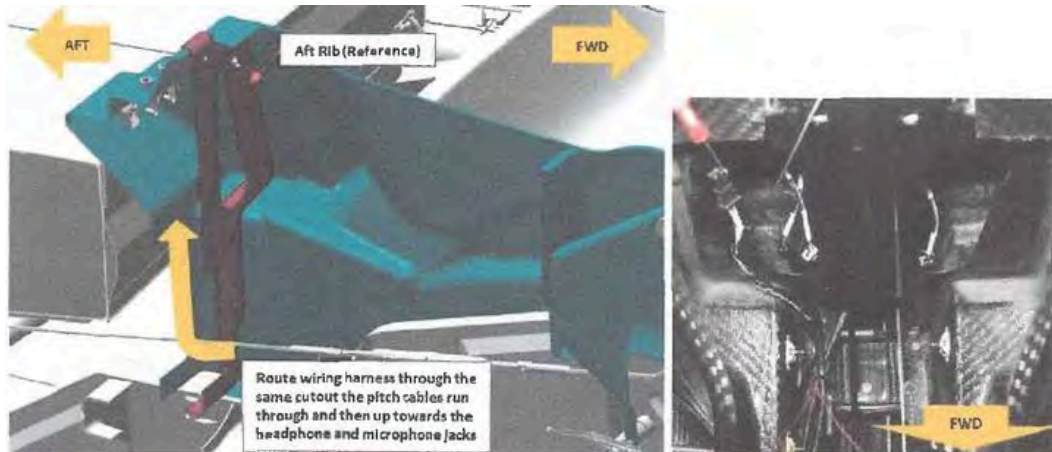

FIGURE 14-25
2. Install LH/RH headphone jacks. (See Figure 14-25.)